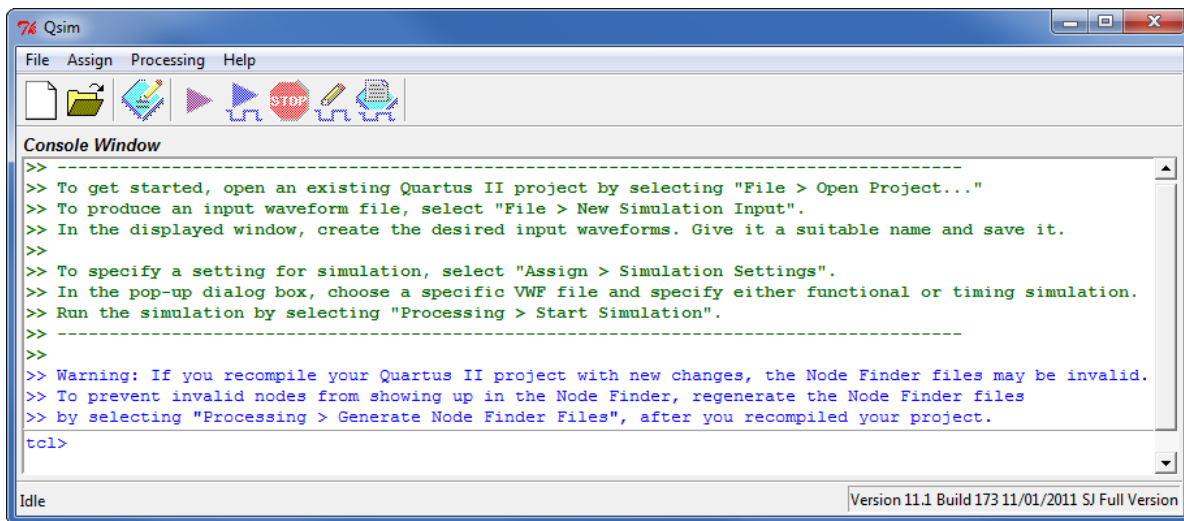

Figure 30. The QSim Window.
1. Select Start > All Programs > Altera > University Program > Simulation Tools > QSim to open the QSim tools, which will display the window in Figure 30.